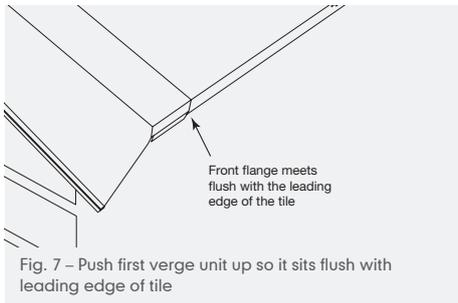

Fig. 7 – Push first verge unit up so it sits flush with leading edge of tile
- 6 Angle the filler piece at 45° and firmly push into the central upstand. Rotate to the vertical position to locate/click into the outer upstands as illustrated in Fig. 7.